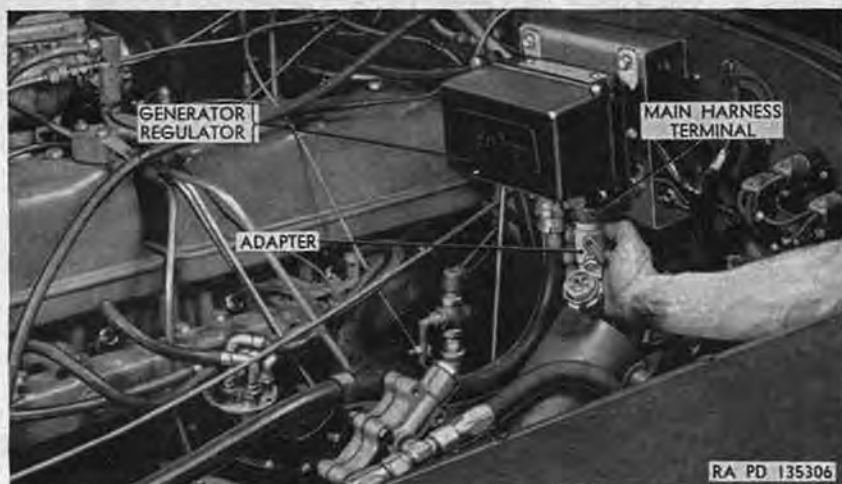
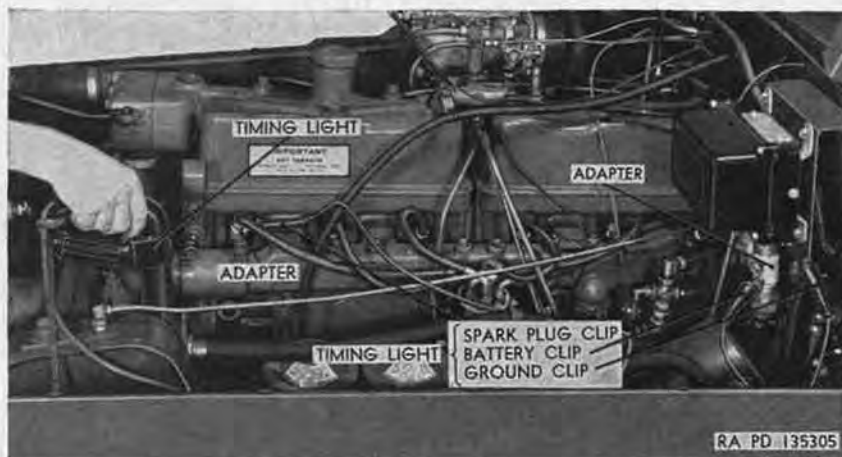

Figure 173. Installing timing adapter at generator regulator.
Figure 174. Timing light connected to adapters (installed in ignition circuit).
- (2) Unscrew connector securing main wiring harness (fig. 160) to main harness terminal at generator regulator and remove the harness from the regulator. Install adapter in main harness terminal, position harness at end of adapter (fig. 173), and tighten connector.
- (3) Disconnect battery ground cable (par. 114b(4)).
- (4) Fasten timing light clips to spark plug adapter, generator regulator adapter (either terminal), and to suitable ground (fig. 174). Use 24-volt timing light.